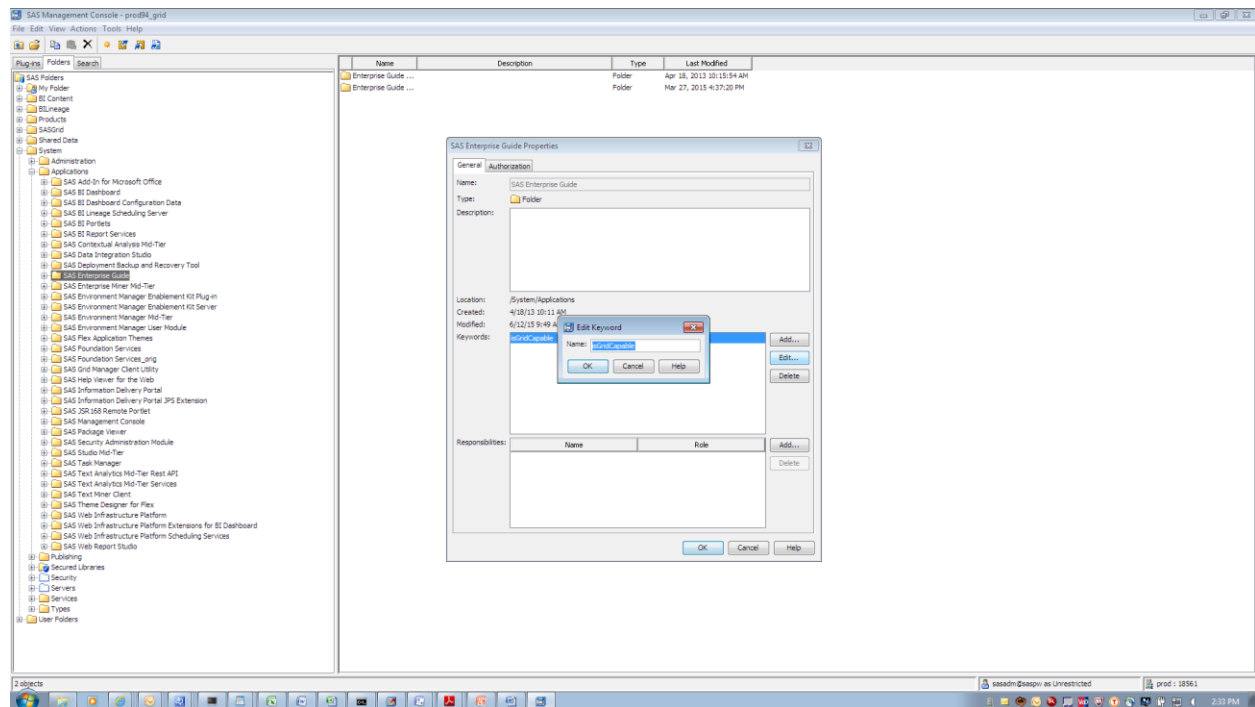

Figure 9. Specifying EG is grid capable
5. In the Add Keyword dialogue box enter isGridCapable (See Figure 9)